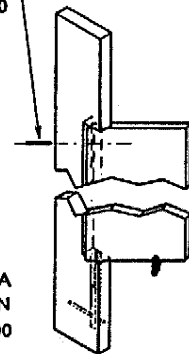

FIGURE 7
d. Drill 1/8" dia. hole a minimum of 2-1/4" deep through both top hinge and door, locking top pin into place using 1" long roll pin part #3981000. See figure 7.